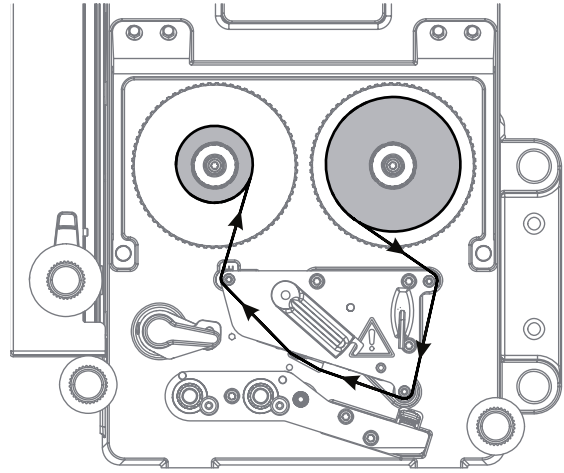

Fig. 14 Transfer ribbon feed path
2. To open the printhead, turn lever (6) counterclockwise
3. Slide the transfer ribbon roll (1) onto the ribbon supply hub (2) until it stops, so that the color coating of the ribbon faces away from the printhead after loading.
4. Hold the ribbon supply hub (2) firmly and turn knob (3) counterclockwise until the transfer ribbon roll is secured.
5. Slide a suitable ribbon core (5) onto the transfer ribbon take-up hub (4) and secure it in the same way.
6. Guide the transfer ribbon through the print unit as shown in Fig. 14.
7. Secure the starting end of the transfer ribbon to the ribbon core (5) with adhesive tape. Ensure counterclockwise rotation direction of the transfer ribbon take-up hub here.
8. Turn the transfer ribbon take-up hub (4) counterclockwise to smooth out the feed path of the transfer ribbon.
9. To lock the printhead, turn lever (6) clockwise.